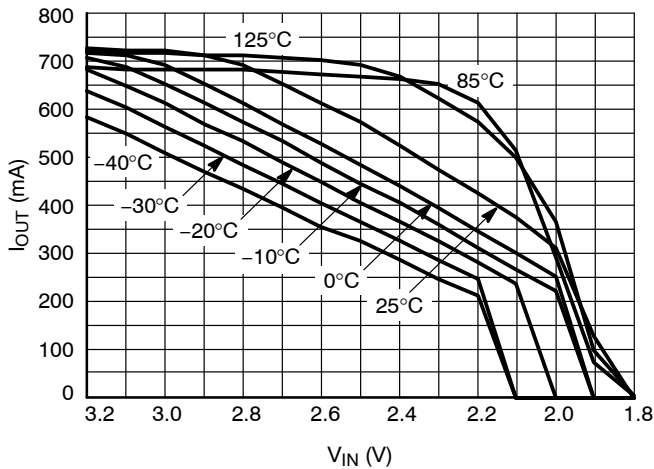

Figure 21. Output Current Capability for the 1.8 V Version
24. For output current capability for $T_A < 0^{\circ}\text{C}$, please refer to Figure 21.